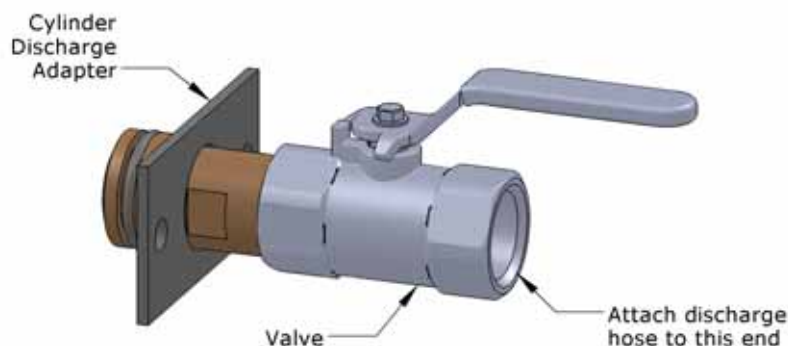

Figure 5-5. Cylinder Discharge Assembly
6. Attach the hose and discharge assembly to the cylinder valve outlet (see Figure 5-5).